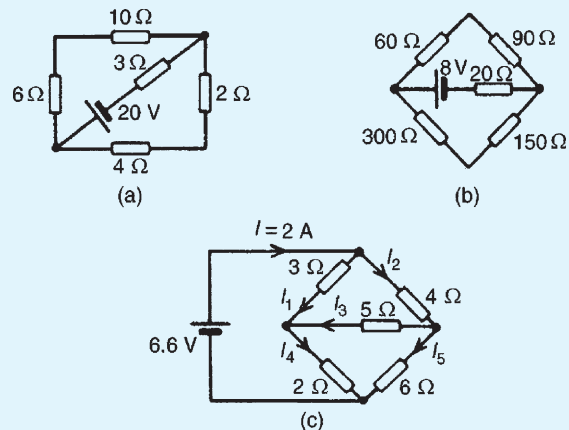

Figure 13.15
5. Find the current flowing in the $3\ \Omega$ resistor for the network shown in Fig. 13.15(a). Find also the p.d. across the $10\ \Omega$ and $2\ \Omega$ resistors.
6. For the network shown in Fig. 13.15(b) find: (a) the current in the battery, (b) the current in the $300\ \Omega$ resistor, (c) the current in the $90\ \Omega$ resistor and (d) the power dissipated in the $150\ \Omega$ resistor.
7. For the bridge network shown in Fig. 13.15(c), find the currents I_1 to I_5